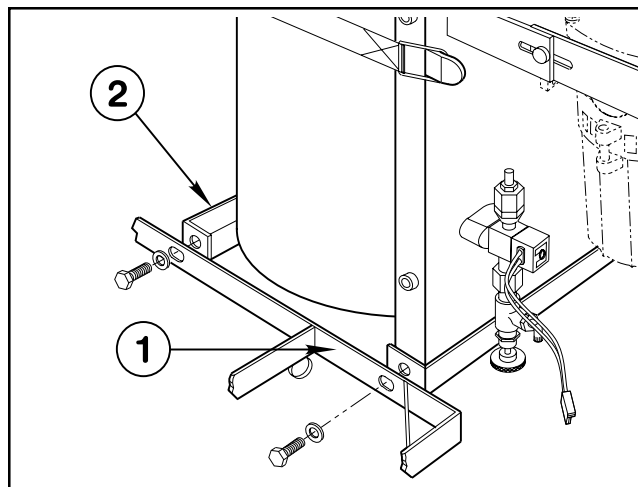

Fig. 1
2. Mount Tank/Compressor Assembly to right vehicle step frame using two (2) 3/8" x 1" hex hd. cap screws and flatwashers. Fasteners must be installed from the backside of the step frame. (Fig. 1)